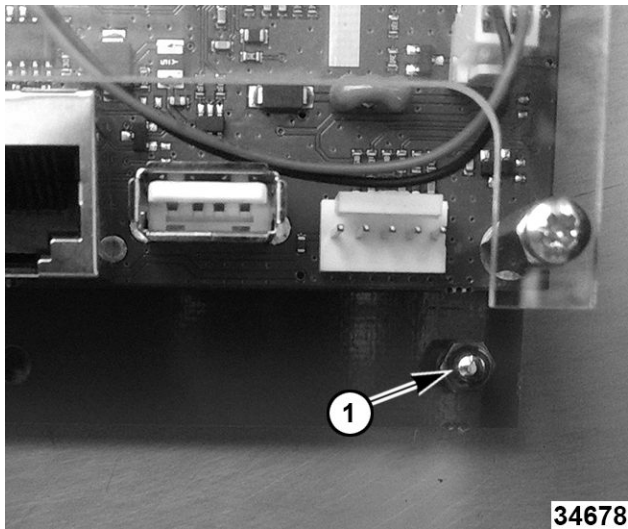

Fig. 9
4. Remove nuts and spacers (1, Fig. 9).